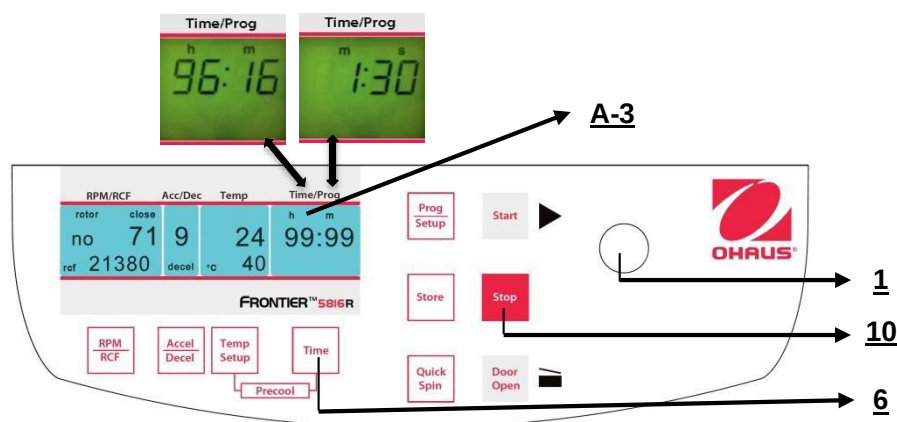

Figure. 20
3. The continuous run **"cont"**, which can be interrupted by the key **"Stop"**(10) (refer to figure 20).
If the samples are temperature-sensitive it is useful to pre-cool the centrifuge, the rotor and eventually the buckets to the required working temperature. Therefore, insert the desired rotor and pre-set the respective temperature. By simultaneous pressing the keys **"Temp/Setup"** (13) (refer to figure 20) and **"Time"** (6) you start the run. While running, the unit chooses automatically a rotational speed that is equivalent to 20 % of the permitted rotational speed of the respective rotor. After the pre-set temperature is reached you can leave the pre-cooling run with the **"Stop"** key (10).